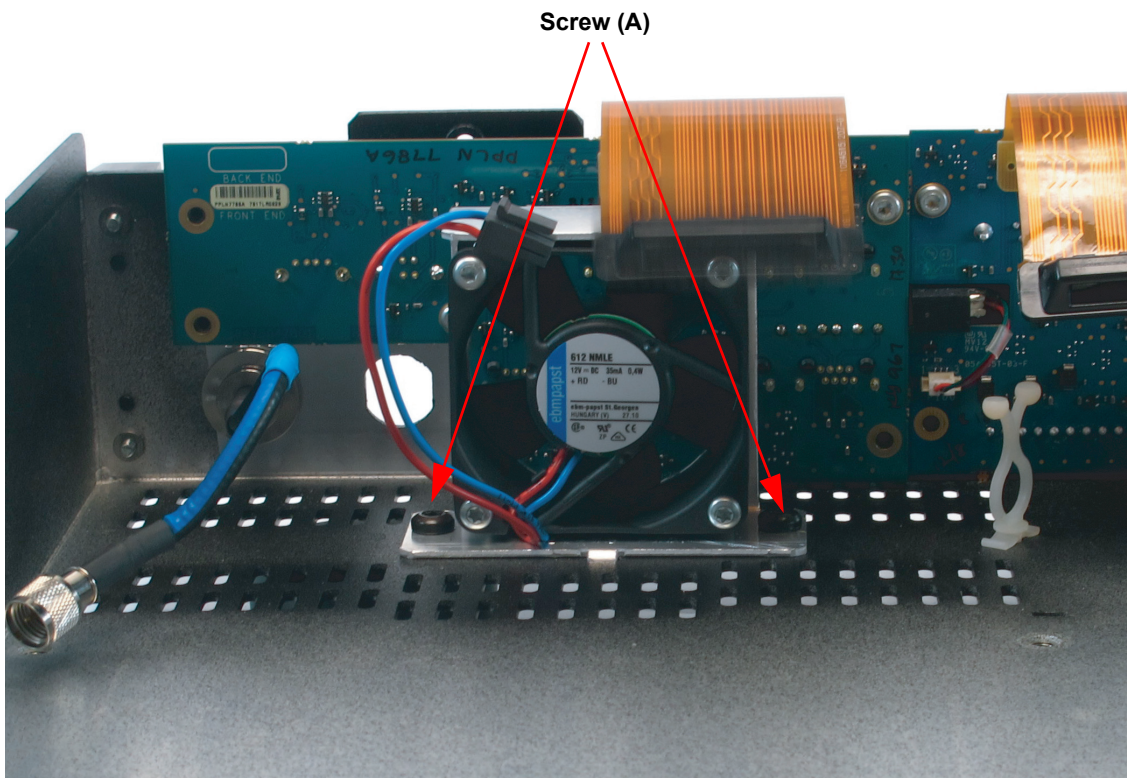

Figure 5-5. Removing and Replacing the Fan
2. Detach the Fan assembly by removing the two screws (A) as shown in Figure 5-5 using a T25 TORX™ driver.
3. Install the two screws (A) on the main board assembly as shown in Figure 5-5 using a T25 TORX™ driver.